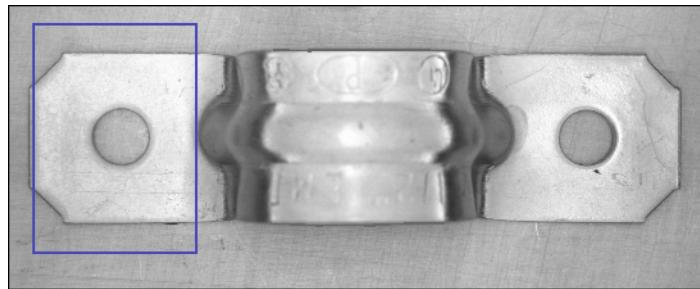

Figure 4-3. Selecting the First Search Area
14. With the **Rectangle Tool**, draw an ROI around the left side of the bracket, as shown in Figure 4-3. Be sure that the region you draw is larger than the template image and big enough to encompass all possible locations of the template in the other images you analyze.